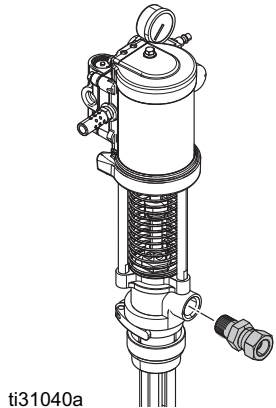

FIG. 6
2. Apply thread sealant to the male outlet fitting (not supplied) and insert into the outlet port. See FIG. 6.